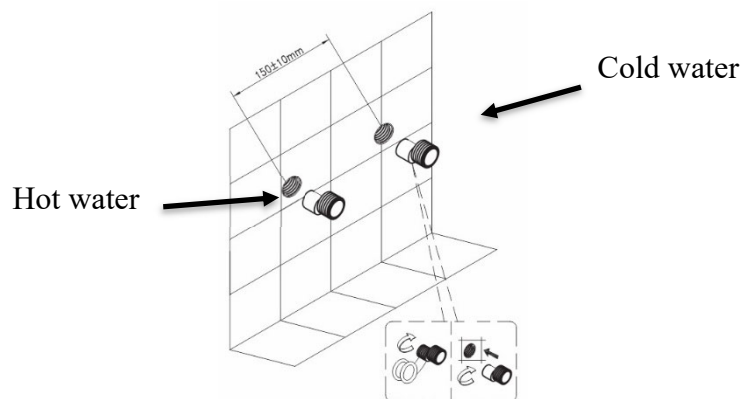

Figure 2
2. Screw the eccentric transitions (part number 13) into the outlets of the water supply system pipelines, sealing the threaded part with insulating material and ensuring a distance of 150 mm between the eccentric axes. The position of the mixer should be horizontal (Figure 2).